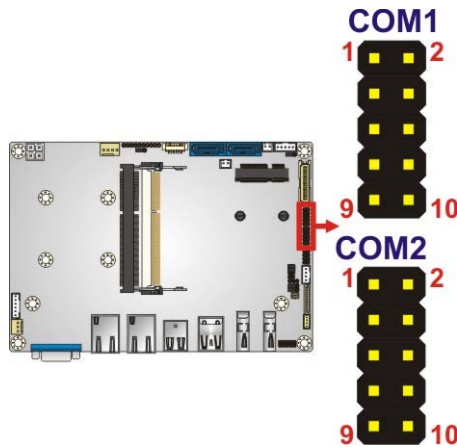

Figure 3-16: COM Connector Locations
- CN Location:** See **Figure 3-16**